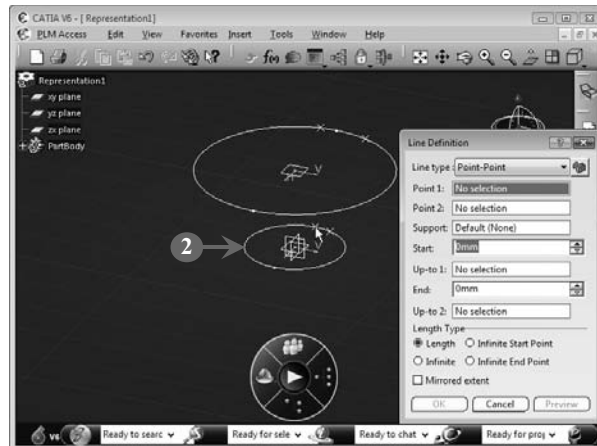

FIGURE 5.102
The **Line Definition** dialog box opens (**Figure 5.102**).
2. Select a point on the first section curve, as shown in Figure 5.102: